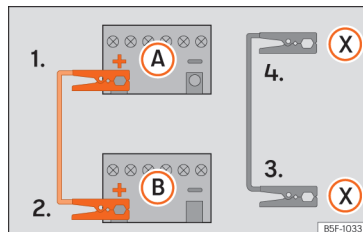

Fig. 44 Diagram of connections for vehicles with Start Stop system
- 3b. *In vehicles with a Start-stop system:* connect one end of the black jump lead (X) to a suitable ground terminal, to a solid piece of metal in the engine block, or to the engine block itself » » » Fig. 44.
5. Connect the other end of the black jump lead (X) to a solid metal component bolted to the engine block or to the engine block itself of the vehicle with the flat battery. Do not connect it to a point near the battery (A).